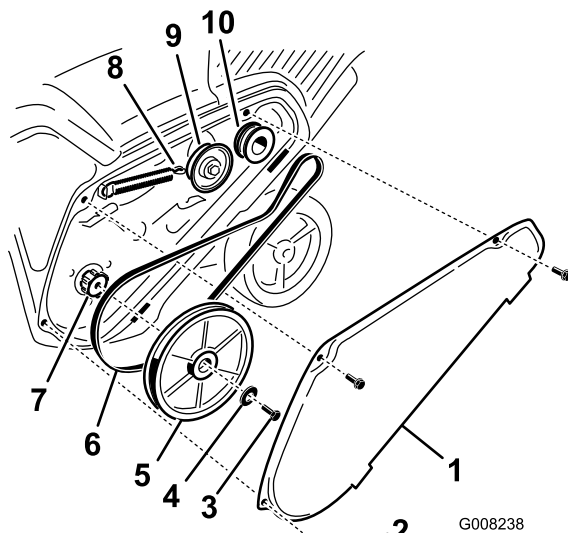

Figure 27
- Remove the drive belt cover by removing the 3 bolts as shown in Figure 27.
- Bolt (3)
- Unhook the brake spring from the idler arm to release the belt tension (Figure 27).
- Remove the screw and curved washer that holds the rotor pulley (Figure 27).
- Remove the rotor pulley and the drive belt (Figure 27).
Note: Route the new drive belt first around the engine pulley, then the idler pulley, and finally around the loose rotor pulley positioned just above the rotor shaft (Figure 27).
6. Install the rotor pulley onto the rotor shaft (Figure 27).
7. Install the curved washer and the rotor pulley bolt and tighten them securely (Figure 27).